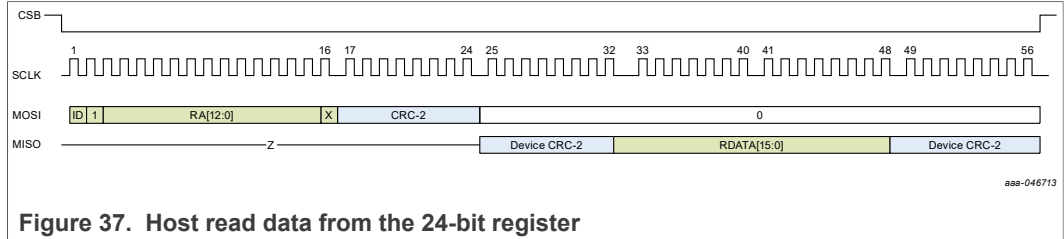

Figure 37. Host read data from the 24-bit register
Figure 37 shows host read data from the 24-bit register. The host sends the first CRC byte, calculated based on the first 16-bit word, which includes device ID bit, RWL bit, RA bits, and don't care bit (0). The second CRC byte is from the device to the host. It is
calculated based on RDATA from the device to the host. Figure 37 also shows host read data from the 16-bit register.